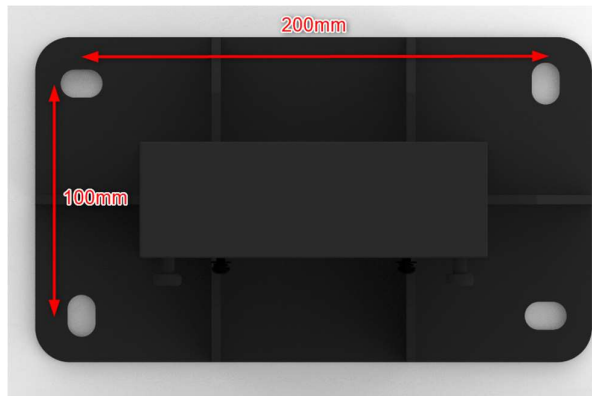

Figure A-20 Fixed base
1. Drill 4 holes with A diameter of 10mm and A depth of 150mm on the concrete floor, and the spacing between hole centers is 100mm*200mm. Use 4 M10*120 expansion screws to install and tighten the charging station posts, as shown in Figure A-20 and A-21.